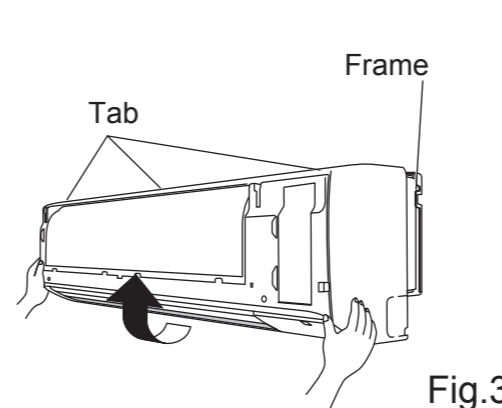

Fig.3
- Hold the both sides of the grille and pull upwards to remove from the frame. (Fig.3)
- Fit the grille to the three tabs on the upper part of the frame and attach the grille. (Fig.3)